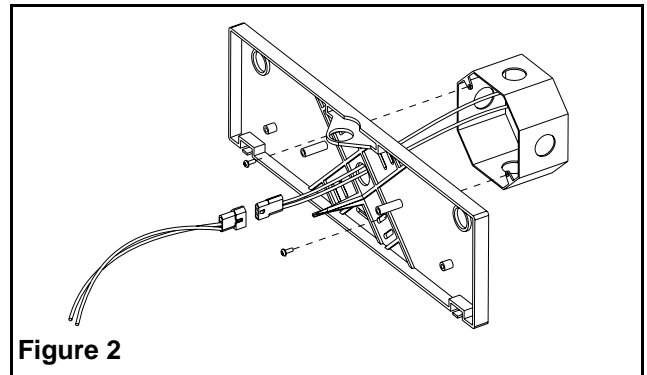

Figure 2
1. Knock out proper hole pattern in back plate by placing two blocks of wood under the backplate (one on each side of the hole). Strike knockouts with a hammer and screwdriver. Mount backplate to standard electrical box (see fig. 2).